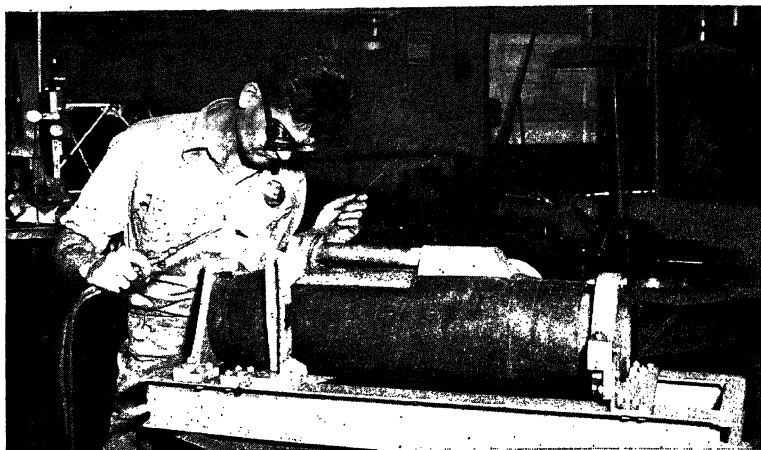

FIG. 4.—Welding a hot-water boiler.
**Boilers.**—Boilers for supplying hot water on transport planes must fit into limited spaces. To ensure keeping them within the specified limits, they are welded in a jig, as seen in Fig. 4. This holds the shell of the boiler